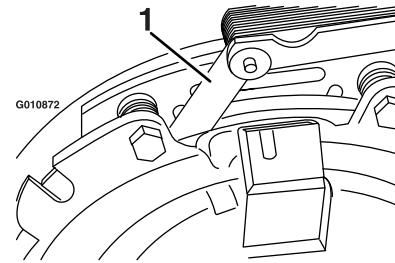
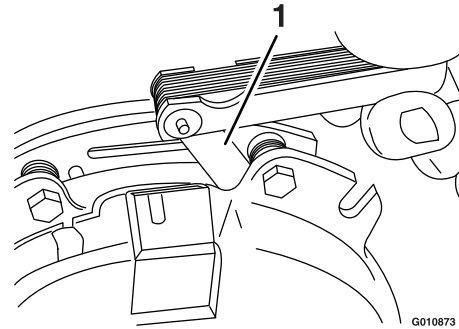

Figure 81
Figure 82
- E. Using a 0.25 mm (0.01 inch) thick feeler gauge, verify that a gap is present between the rotor and the armature face on both sides of the brake pole as shown in Figure 81 and Figure 82.